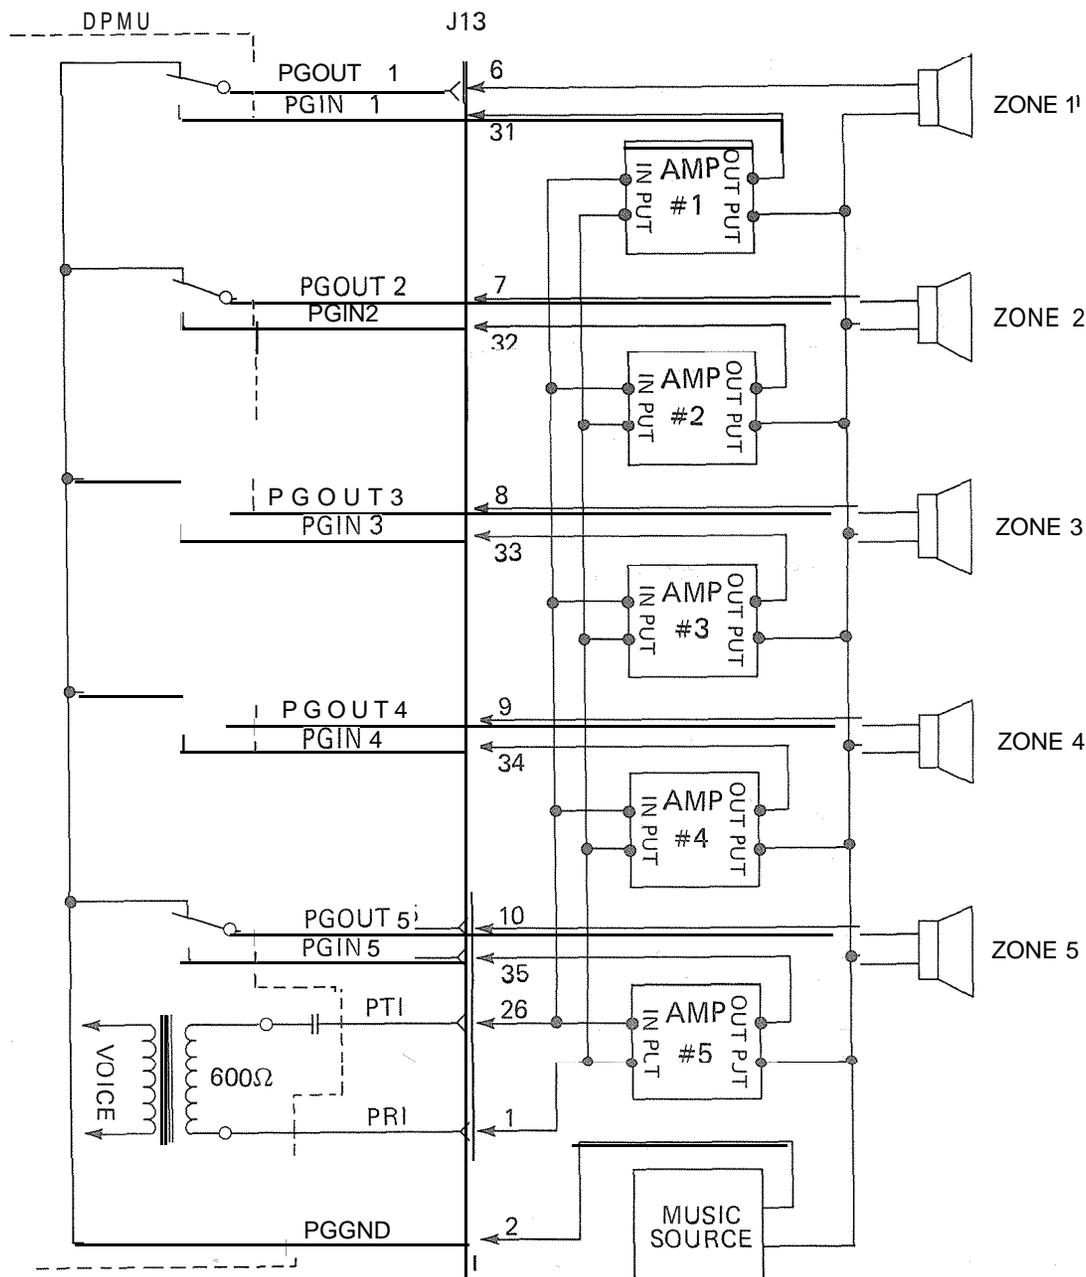

FIGURE 41—PAGING WITH MULTIPLE AMPLIFIERS
12.24 If the power loads of the different zones are such that a single amplifier is not suitable, multiple amplifiers (up to one for each zone) can be connected as shown in Figure 41.